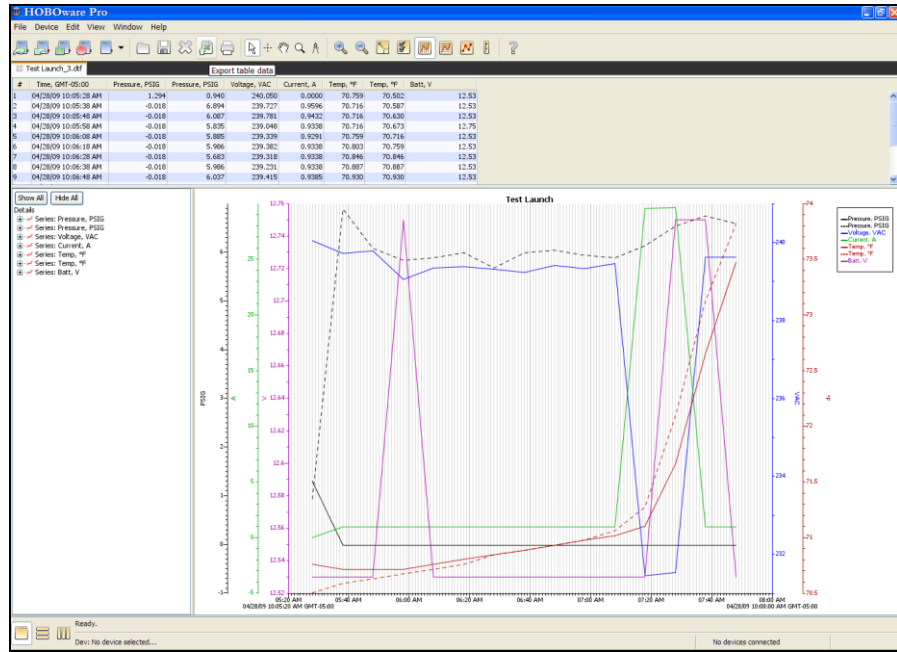

Figure 7. Prepare to Export the Table Data
7) A screen similar to the one in Figure 7 can now be seen. Push the 'Export Table Data' button.